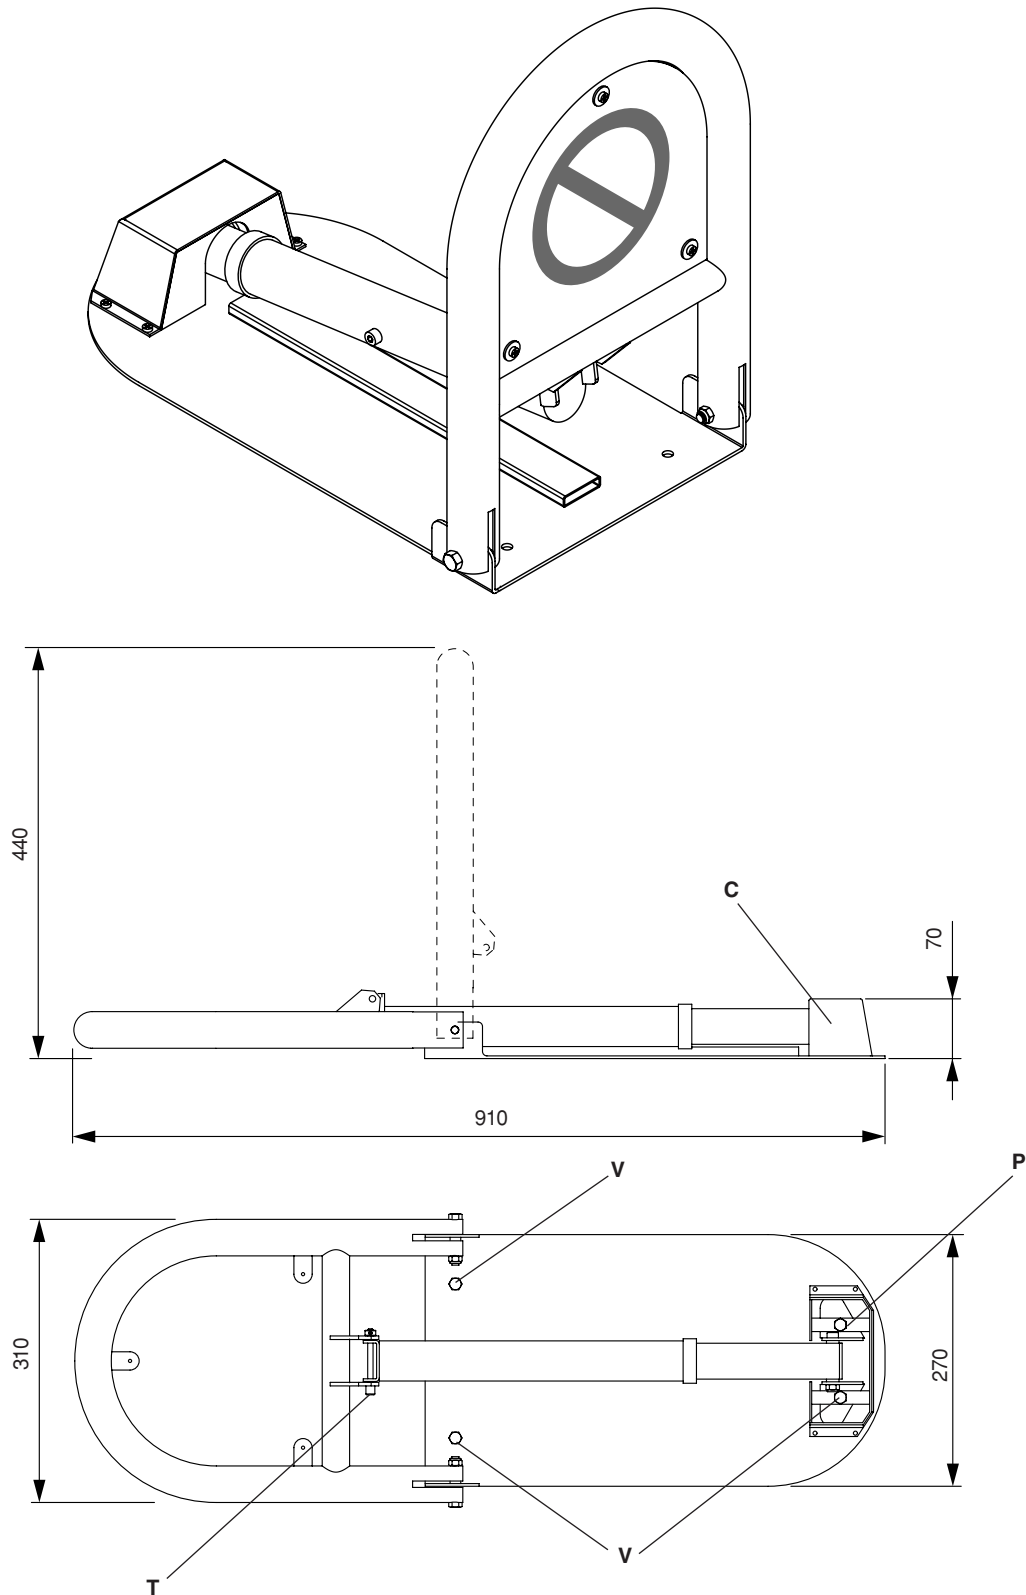

Fig.1
1. Installazione (fig. 1)
2. Urto accidentale (fig. 1)
1. Installation (fig. 1)
2. Accidental hits (Fig. 1)
1. Installation (Abb. 1)
2. Zufällige Stöße (Abb. 1)
2. Choc accidentel (Fig. 1)
1. Instalación (fig. 1)
2. Choque accidental (Fig. 1)